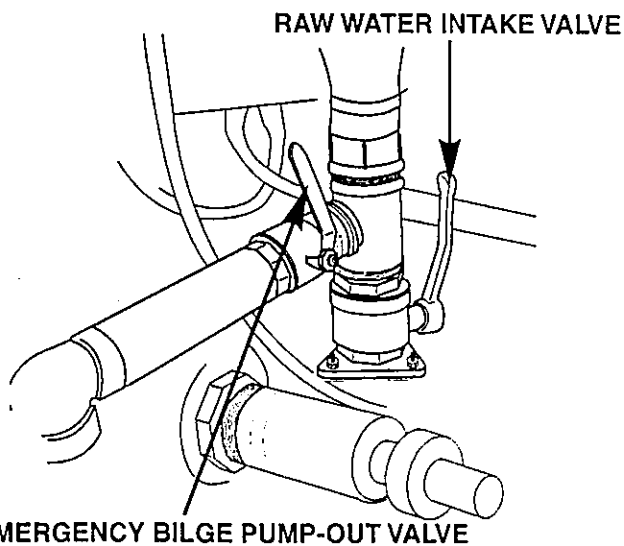

Figure 3-5 Engine Raw Water Intake Valve
6. See Figure 3-5. Open both engine raw water intake valves. Valves are open when handles are in line with hoses. If installed, make sure engine pump-out valve is closed.